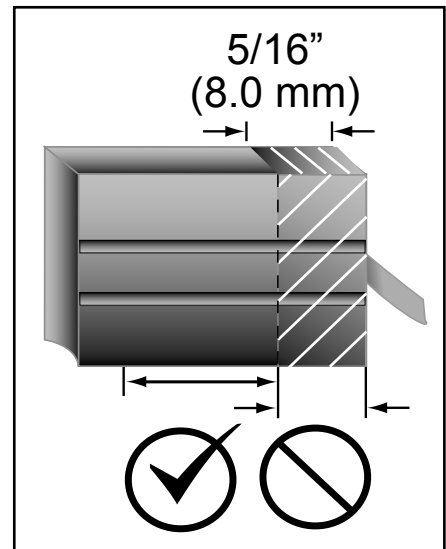

Figure 17
- B. Inspect the brushes for signs of excessive wear or cracks. The motor brushes must be replaced if one or both is worn to 5/16" (8.0 mm) or less in length, is broken or chipped, has a broken spring, or binds in the motor. See Figure 17.